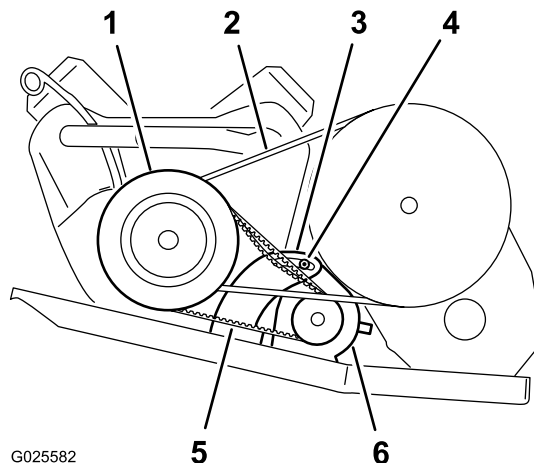

Figure 64
2. Loosen the pivot nut for the starter generator (Figure 64).
4. Apply downward pressure to the pry bar to rotate the starter down in the slot until the belt tension only allows 6 mm (1/4 inch) belt deflection with 44 N (10 lb) of force (Figure 64).
5. Tighten the pivot nut hand tight, and remove the pry bar (Figure 64).